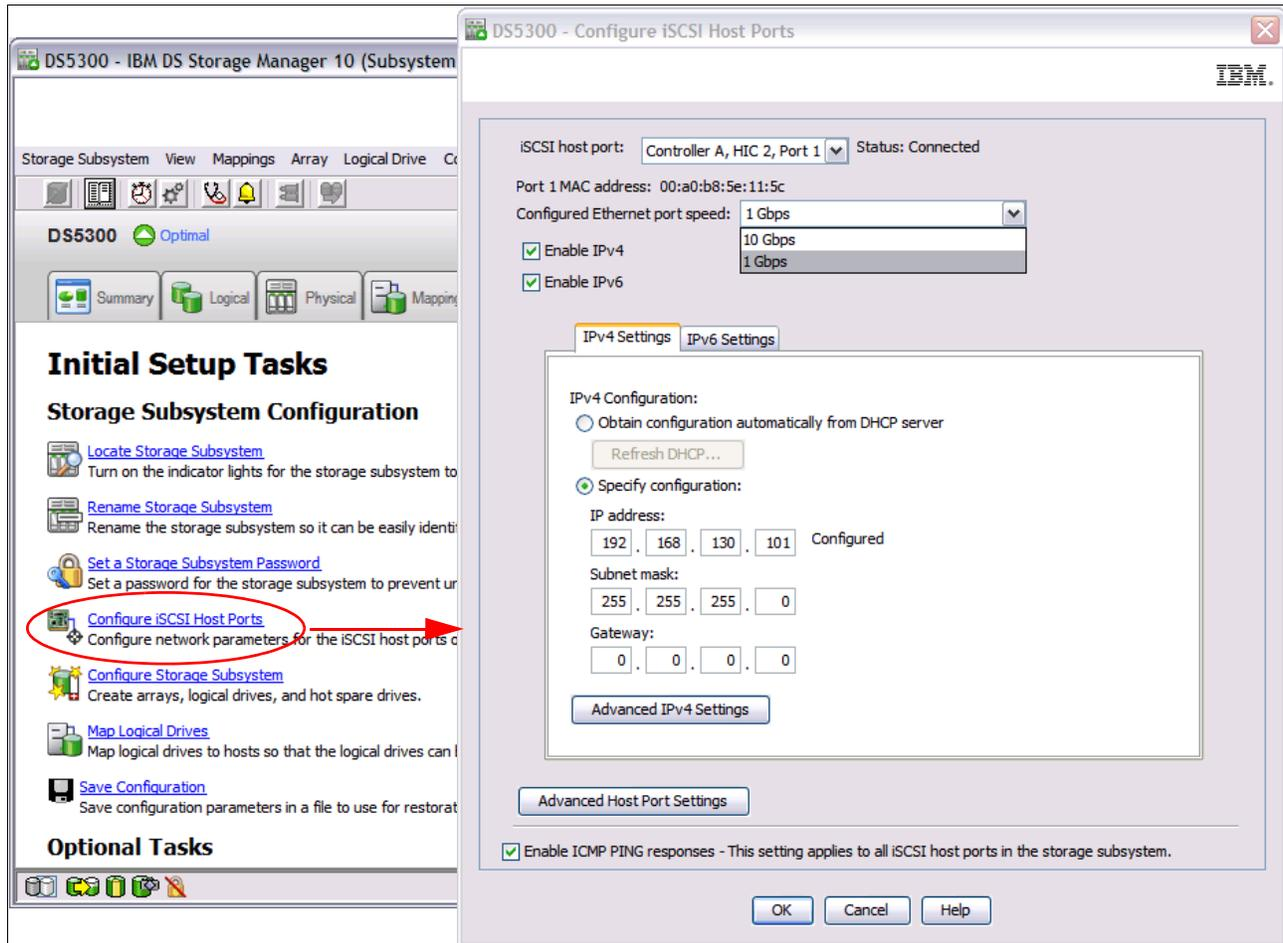

Figure 3-28 Configure iSCSI host ports
1. Start the iSCSI attachment configuration defining the iSCSI host ports. Do it for each of the ports of both controllers that you are planning to use for connecting iSCSI hosts. From the Setup tab of the Subsystem management window, select the option **Configure iSCSI Host Ports**, as shown in Figure 3-28.
- Check the iSCSI names of the adapters to ensure that they are recognized, as follows. After both controller IP addresses are configured as targets in the iSCSI HBA ports, and because we already defined the iSCSI host ports as in Figure 3-28, “Configure iSCSI host ports” on page 124, then the iSCSI names of the adapters must be recognized by the DS5000 storage subsystem.